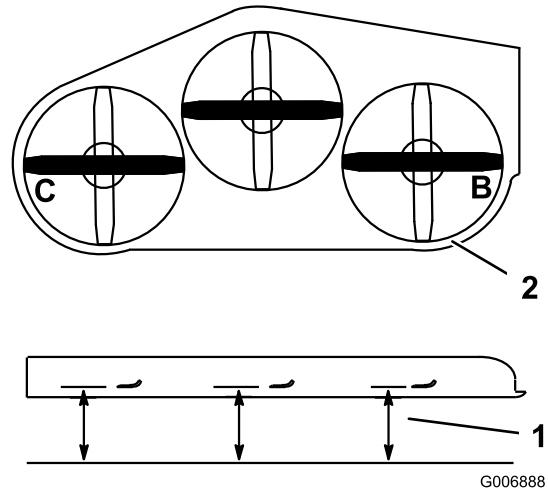

Figure 97
4. Measure at the **B** and **C** locations from a level surface to the cutting edge of blade tips (Figure 97).